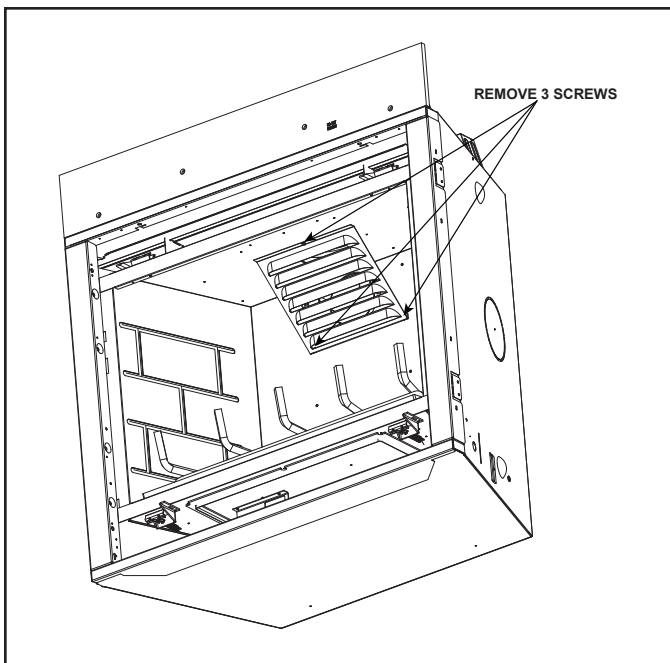

Figure 6. Remove Exhaust Baffle (6000C ONLY)
6. Remove exhaust baffle by removing three screws as shown in Figure 6. Retain screws to use when installing the new exhaust baffle.